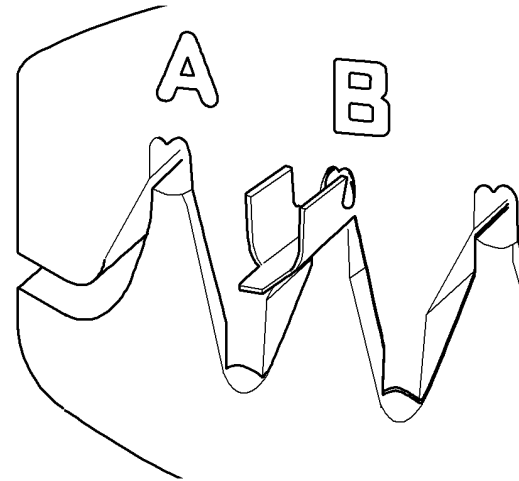

Figure 3 Crimping the terminal.
2. **Figure 3.** Insert a male or female terminal into the appropriate position of the crimp tool, then close the tool just enough to hold the terminal.